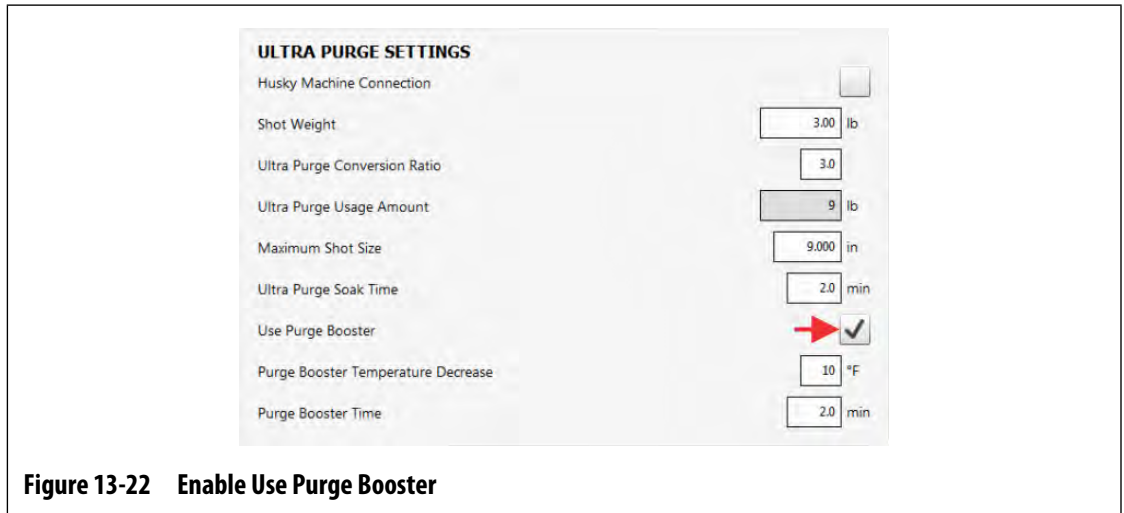

Figure 13-22 Enable Use Purge Booster
2. Touch the Use Purge Booster checkbox, so a check mark shows (refer to Figure 13-22).